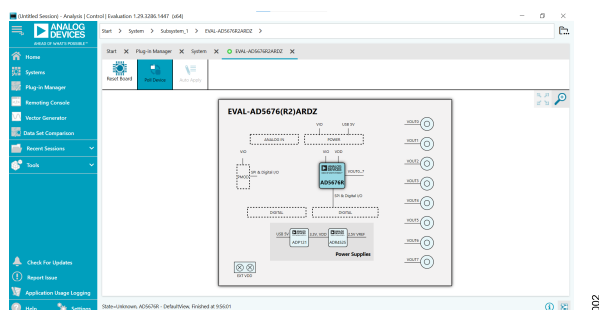

Figure 2. ACE Software Main Window
2. Run the ACE software, and the main window appears as shown in Figure 2. The EVAL-AD5675RARDZ or EVAL-AD5676R2ARDZ board plugins appear in the **Attached Hardware** section of the **Start** tab.